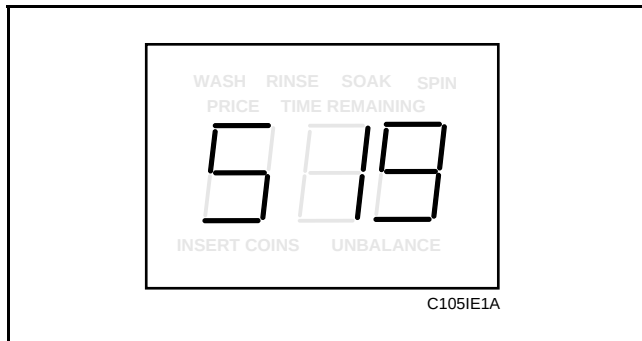

Figure 55
2. While pressing and holding the PERM PRESS keypad with one hand, press the COLD keypad with the other hand. Programmable option number one, “Slg”, will appear in the VFD. See **Figure 55**.